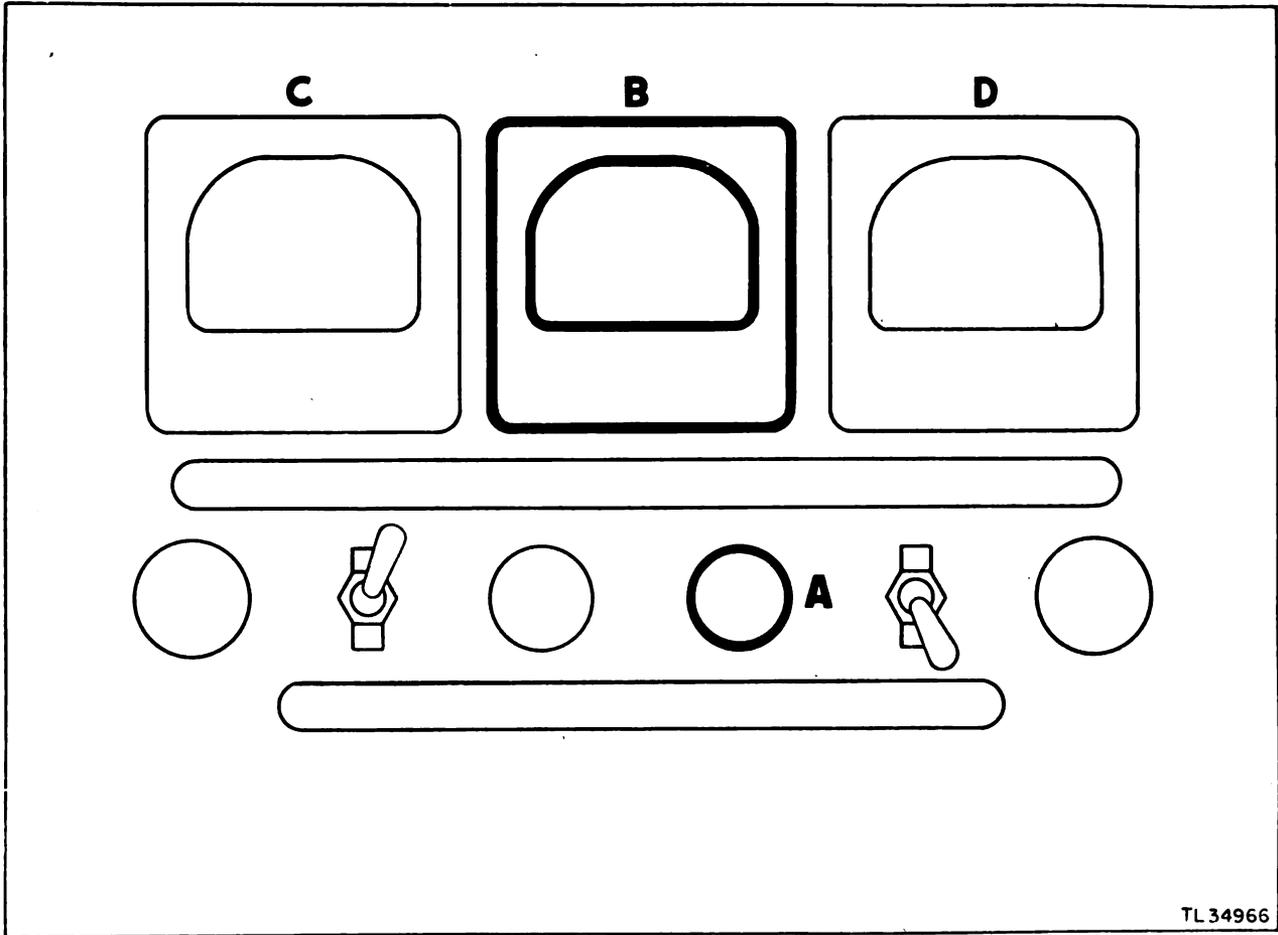

Figure 44. Starting procedure, step No. 7.
g. Press the PUSH FOR TOTAL D-C button (A, fig. 44). The TRANSMITTER CURRENT meter (B) should read 10 to 15 milliamperes. After the above check, see that the following meters read correctly:
LINE VOLTAGE meter (C, fig. 44) .....	115 volts.
MODULATOR PLATE VOLTAGE meter (D, fig. 44) .....	10 to 15 kv.
TRANSMITTER CURRENT meter (B, fig. 44) .....	6 to 10 ma.